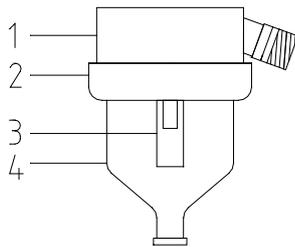

Fig. 4.5a
With vacuum systems the sample volume is adjustable by the length of the silicon hose (3 in Fig. 4.5a) inside the vacuum chamber (4). The longer the hose the smaller the sample volume. Standard sample volume is ± 50 cc. Follow the following procedures to change the sample volume.
- Carefully loosen the PP glass holder (2) counter clockwise until the glass (4) is loose from the vacuum head.
- Determine the length of the silicon hose (3) (lengthen or shorten).